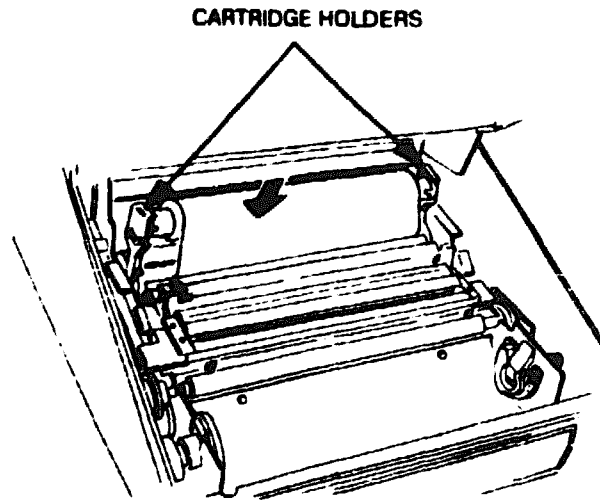

Figure 2-6 Mounting the Take-up Roller on the Supply Ribbon Cartridge
4. Carefully wind the take-up ribbon roller toward the supply ribbon cartridge. Mount the take-up ribbon roller on the supply ribbon cartridge holders (see Figure 2-6).